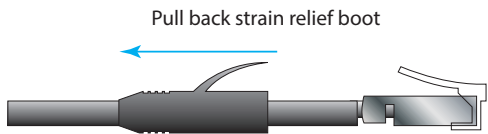

Fig. 2.3
6. Before connecting the long outdoor Ethernet cable to the camera, pull the strain relief boot back from the RJ45 plug and slide it away to make room for the waterproof housing, see Fig. 2.3.